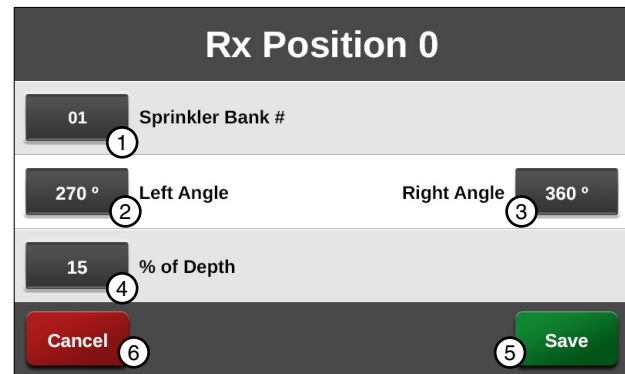

Figure 166-1 1. Sprinkler Bank # 4. % of Depth
1. Push **Menu**, **Programs**, and **VRI** to display the VRI-Z screen. Refer to Figure 166-1.